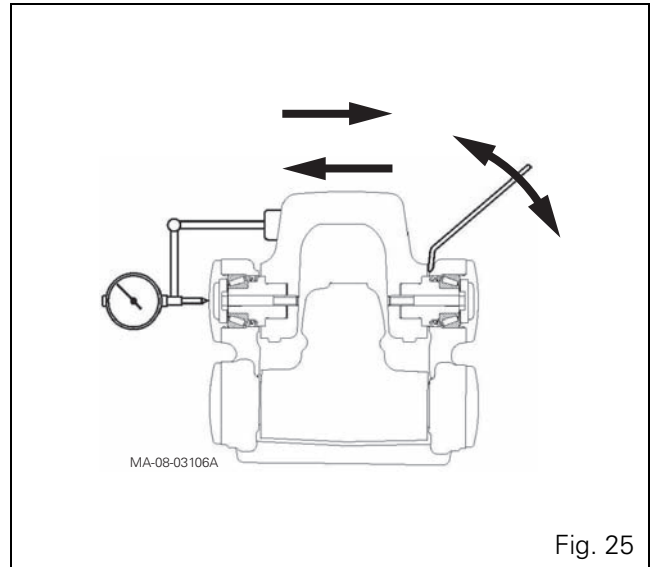

Fig. 25
25. Place a dial gauge with a magnetic stand on the upper arm and move the dial gauge feeler pin until it comes into contact with the lower arm, then reset the dial gauge to zero (Fig. 25).
Install a lever between the arms, push in the arm at each side and measure the clearance using a dial gauge. Repeat this several times to obtain an average value Y (Fig. 25).